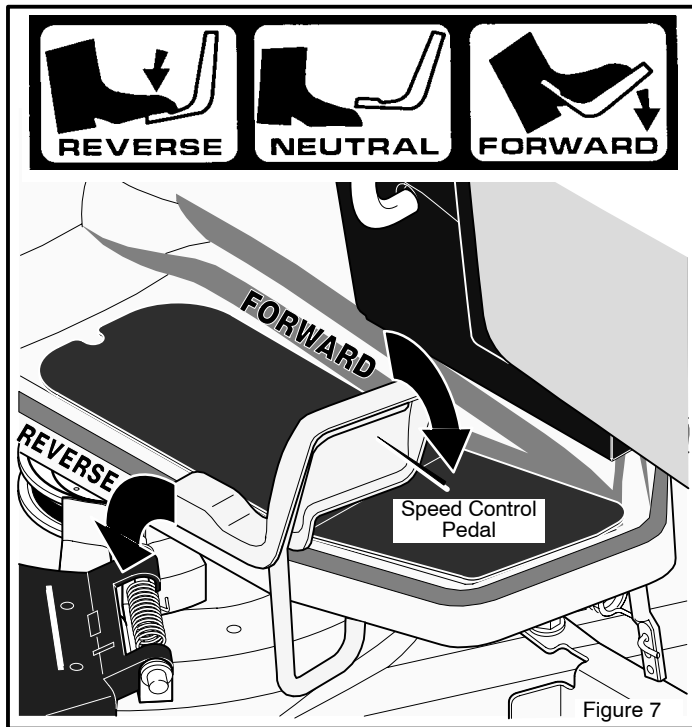

Figure 7
4. Slowly push the **speed control pedal** forward to the desired speed (Figure 7).